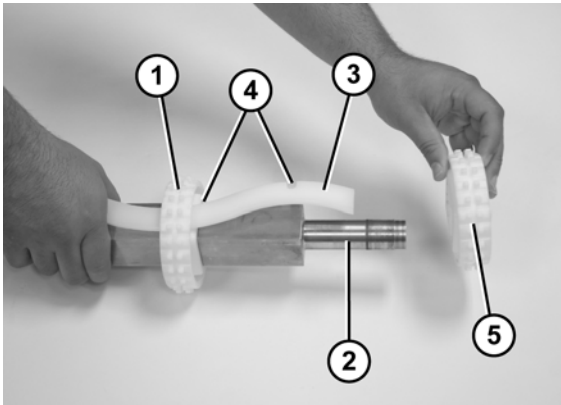

Figure 83
1. Slide the first sprocket (**Figure 83, item 1**) onto the drive spindle (**Figure 83, item 2**).
2. Insert the sprocket alignment bar (**Figure 83, item 3**) into the first sprocket and align the sprocket with the notch (**Figure 83, item 4**) in the sprocket alignment bar.
3. Slide the remaining sprockets (**Figure 83, item 5**) onto drive spindle and align each sprocket with the notches (**Figure 83, item 4**) in the sprocket alignment bar.